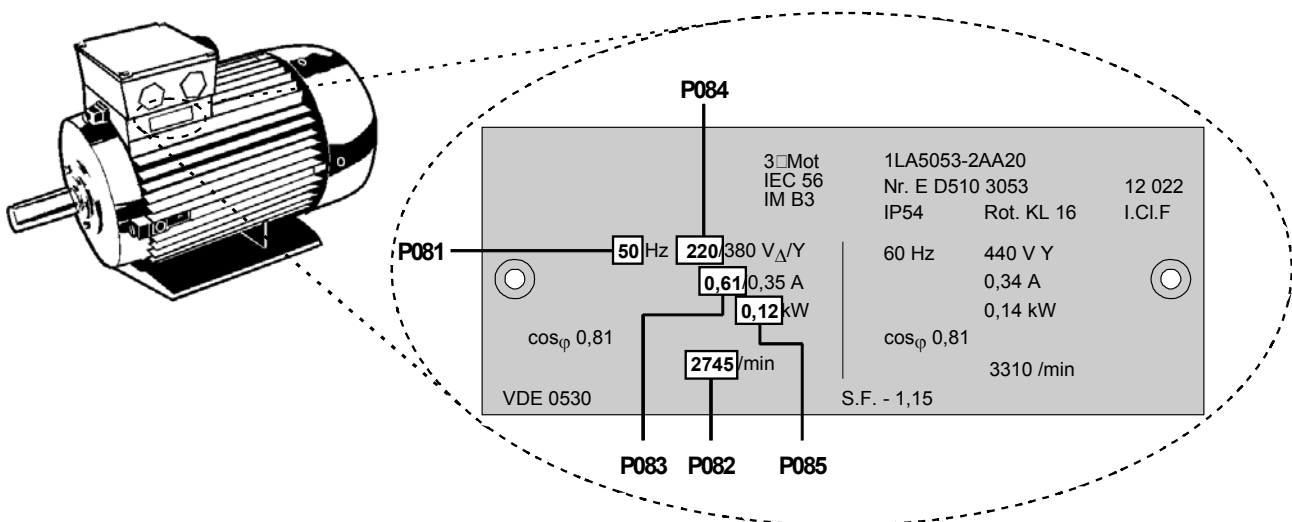

Figure 3.2.1: Typical Motor Rating Plate Example
- (1) The inverter does not have a main power switch and is live when the mains supply is connected. It waits, with the output disabled, until the RUN button is pressed or for the presence of a digital ON signal at terminal 5 (rotate right) or terminal 6 (rotate left) - see *parameters P051 - P053*.
- (2) If output frequency is selected to be displayed ( $P001 = 0$ ), the corresponding setpoint is displayed approximately every 1.5 seconds while the inverter is stopped.
- (3) The inverter is programmed at the factory for standard applications on Siemens four-pole standard motors. When using other motors it is necessary to enter the specifications from the motor's rating plate into parameters  $P081$  to  $P085$  (see *Figure 3.2.1*). **Note: Access to these parameters is not possible unless P009 has been set to 002 or 003.**
- (1) Connect control terminal 5 to terminal 8 via a simple on/off switch. This sets up the motor for clockwise rotation (default).
- (2) Apply mains power to the inverter. Set parameter P009 to 002 or 003 to enable all parameters to be adjusted.
- (3) Check that parameter P006 is set to 000 to specify digital setpoint.
- (4) Set parameter P007 to 000 to specify digital input (i.e. DIN1 (terminal 5) in this case) and disable the front panel controls.
- (5) Set parameter P005 to the desired frequency setpoint.
- (6) Set parameters P081 to P085 in accordance with the rating plate on the motor (see Figure 3.2.1).
- (7) Set the external on/off switch to ON. The inverter will now drive the motor at the frequency set by P005.
- (3) Apply mains power to the inverter. Set parameter P009 to 002 or 003 to enable all parameters to be adjusted.
- (4) Set parameter P006 to 001 to specify analogue setpoint.
- (5) Set parameter P007 to 000 to specify digital input (i.e. DIN1 (terminal 5) in this case) and disable the front panel controls.
- (6) Set parameters P021 and P022 to specify the minimum and maximum output frequency settings.
- (7) Set parameters P081 to P085 in accordance with the rating plate on the motor (see Figure 3.2.1).
- (8) Set the external on/off switch to ON. Turn the potentiometer (or adjust the analogue control voltage) until the desired frequency is displayed on the inverter.